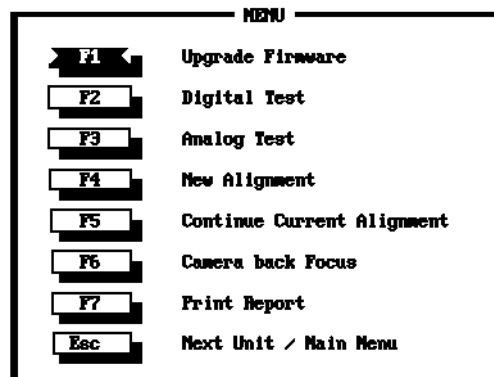

Figure 5-32. Test menu
2. Choose Start Test (press F1) to display the test menu (Figure 5-32).